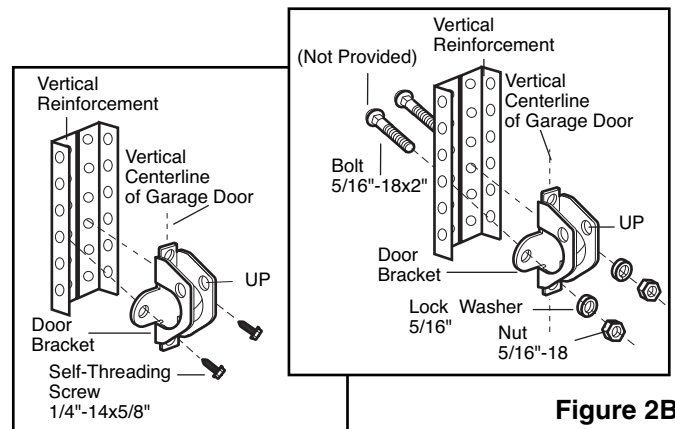

Figure 2A
- Drill 3/16" fastening holes. Secure the door bracket using the two 1/4"-14x5/8" self-threading screws. (Figure 2A)